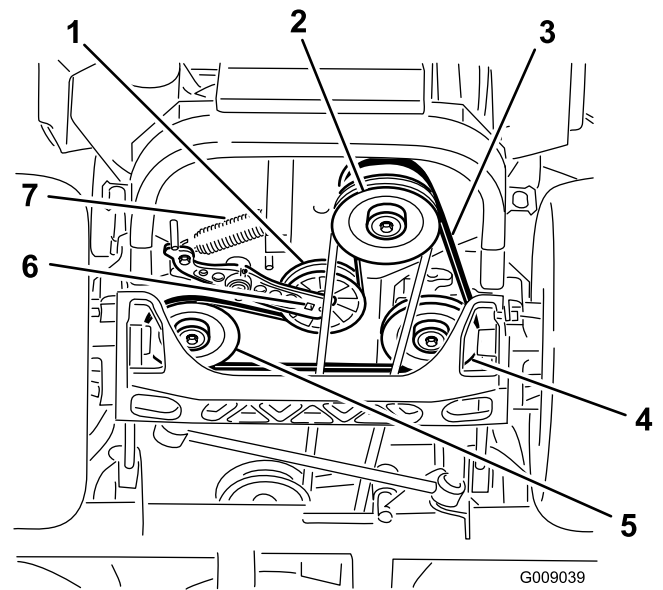

Figure 76
5. Use a ratchet in the square hole in the idler arm to remove the idler spring (Figure 76).
6. Unhook the idler spring from the frame (Figure 76).
9. Using a ratchet in the square hole in the idler arm, install the idler spring to the frame (Figure 76).